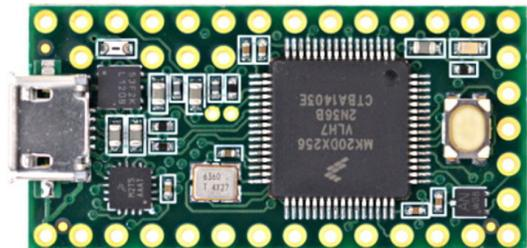

Figure 9: Teensy 3.2
2. Navigate to the “Setup” menu on the file menu of the programmer. Select “Update Firmware...” (refer to Figure 9).